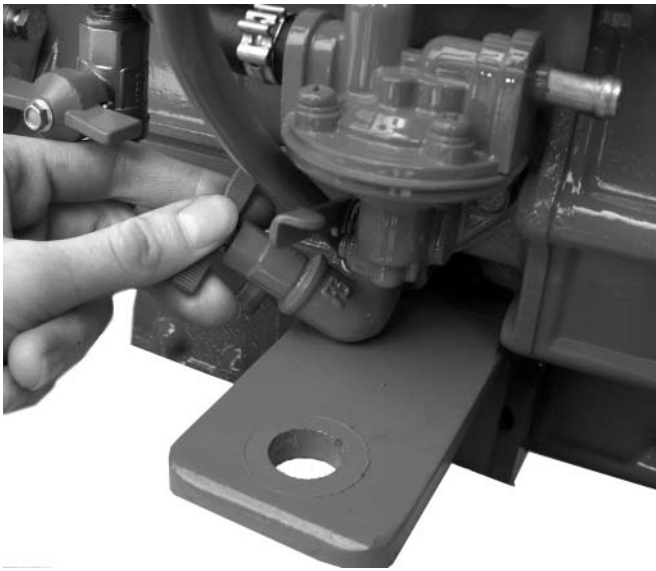

Fig. 2l
- Check that the drain tap or plug is turned off. (see fig 2l) (Note BZ482 and B10 engines with sump drain pump are fitted with a plug).